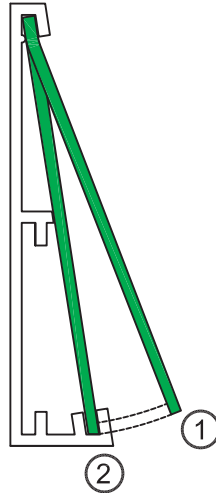

Figure 1.7 Insertion of Photoluminescent Strip - 'Snap' Method
STEP 9: In order to assemble the profile with the photoluminescent strips, firstly insert the top edge of the photoluminescent strip into the profile, then with an upward motion 'snap' the strip into position shown below in Figure 1.7